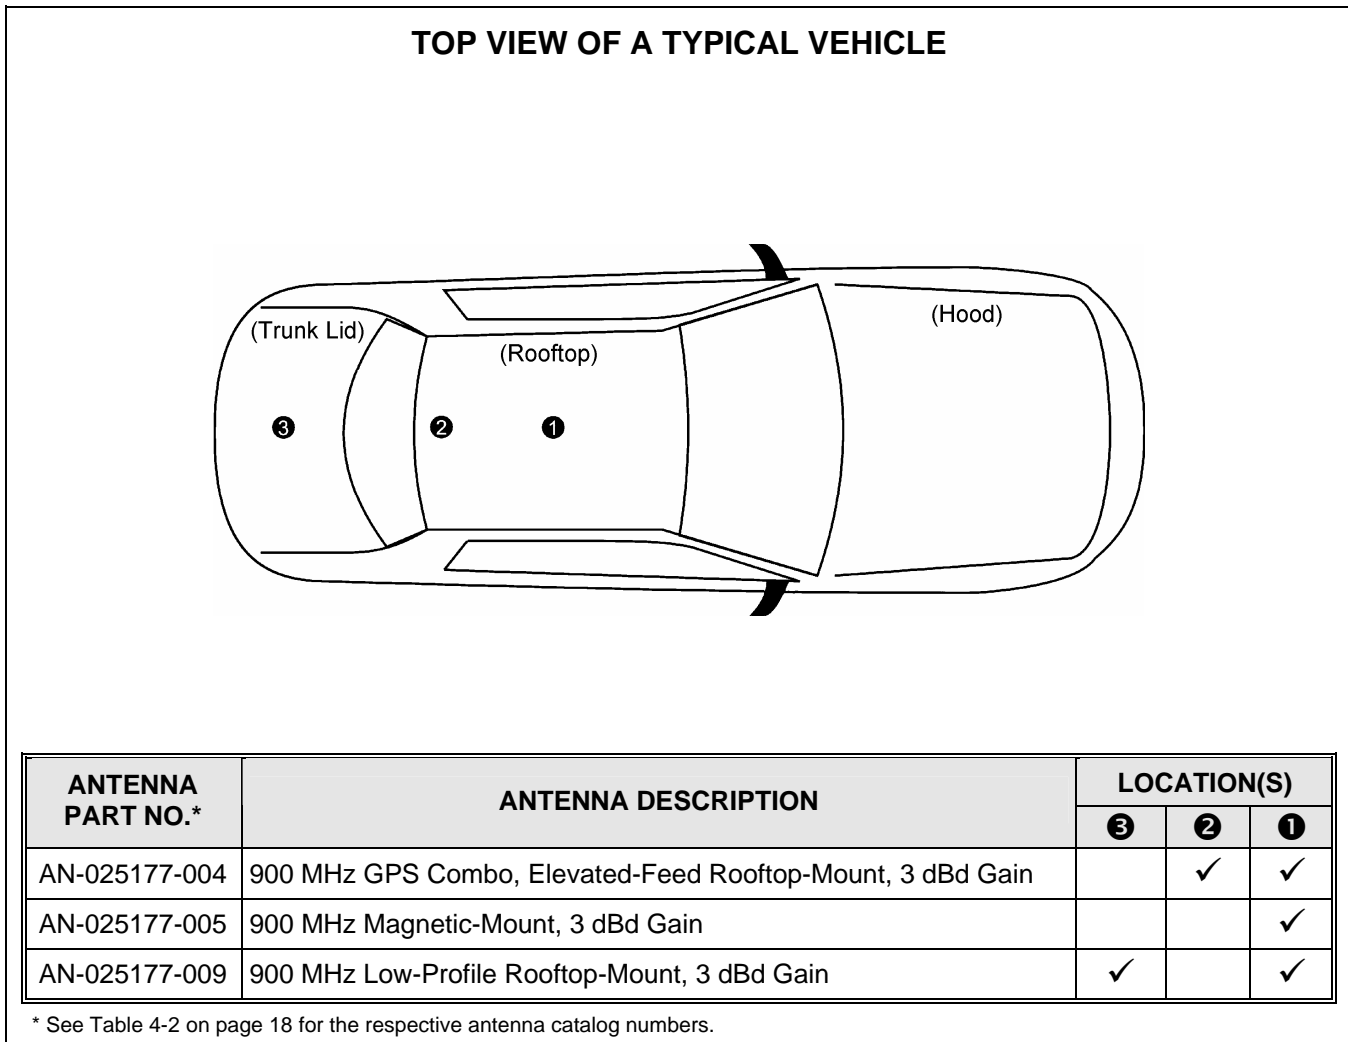

Figure 6-1: Recommended Antenna Mounting Locations with Antenna Part Numbers
At this time, review all information presented in the **REGULATORY AND SAFETY INFORMATION** section of this manual (begins on page 6). A transmitting antenna must be installed in accordance with the guidelines presented in the **REGULATORY AND SAFETY INFORMATION** section. Use Table 1-1 on page 8 and Figure 6-1 below as a guide for determining the best possible mounting configuration/location in order to reduce human exposure to radio frequency (RF) electromagnetic energy during transmit mode.
Antennas must be mounted in one of three possible locations on the vehicle as described in the following subsections. Figure 6-1 shows the recommended locations and antenna part numbers for each location. Also, see Table 4-2 for additional information. Always follow the antenna manufacturer’s instructions when mounting an antenna.
The center of the vehicle's roof is the best location for a rooftop-mount antenna (location ❶ in Figure 6-1). For optimal performance, the mounting area under the antenna must be a flat with a minimum radius of six (6) inches of metal ground plane. It must be located directly in the center of the roof to minimize human exposure to RF electromagnetic energy. Other obstructions such as a light bar or another antenna may prevent the antenna from being mounted in the direct center of the roof. In this case, the antenna should be mounted a minimum of one foot away from and behind the obstruction but in the middle of the roof with respect to the left and right sides of the vehicle (location ❷ in Figure 6-1).
Certain vehicles do not allow for the antenna to be placed in the center or center-rear of the roof. In this case, the next best location for the antenna is in the direct center of the trunk lid (location ❸ in Figure 6-1). In this case, an elevated-feed-point antenna is recommended. Although this type of antenna does not require a metal ground plane, it must be located directly in the center of the trunk lid to minimize human exposure to RF electromagnetic energy.
Table 4-2 (page 18) and Figure 6-1 (page 24) list the mobile radio antennas available for use with the radio. As presented in the previous section, various mounting locations exist. Optimal performance is achieved via a rooftop antenna mounted in the direct center of the motor vehicle's roof. The following mobile antenna installation procedure is recommended:
An SMR/GPS combination ("combo") antenna kit includes a GPS antenna built into the base of the mobile antenna. Refer to Table 4-2 (page 18) and/or Figure 6-1 (page 24) for available combo antennas.